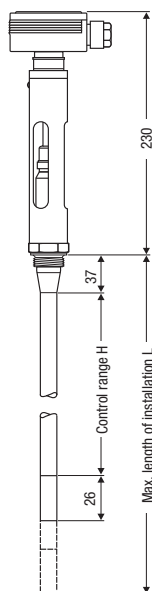

Fig. 1
*) refer to table next to Fig. 1